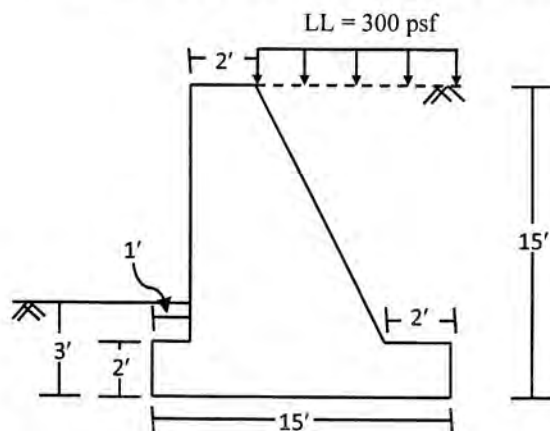

Fig: 7
9. A section of a gravity retaining wall as shown in **Fig: 7** was made to support the soil behind the wall and the surcharge on the ground surface. Check the external stability of the section against sliding and overturning. Also check the soil pressure under the base.